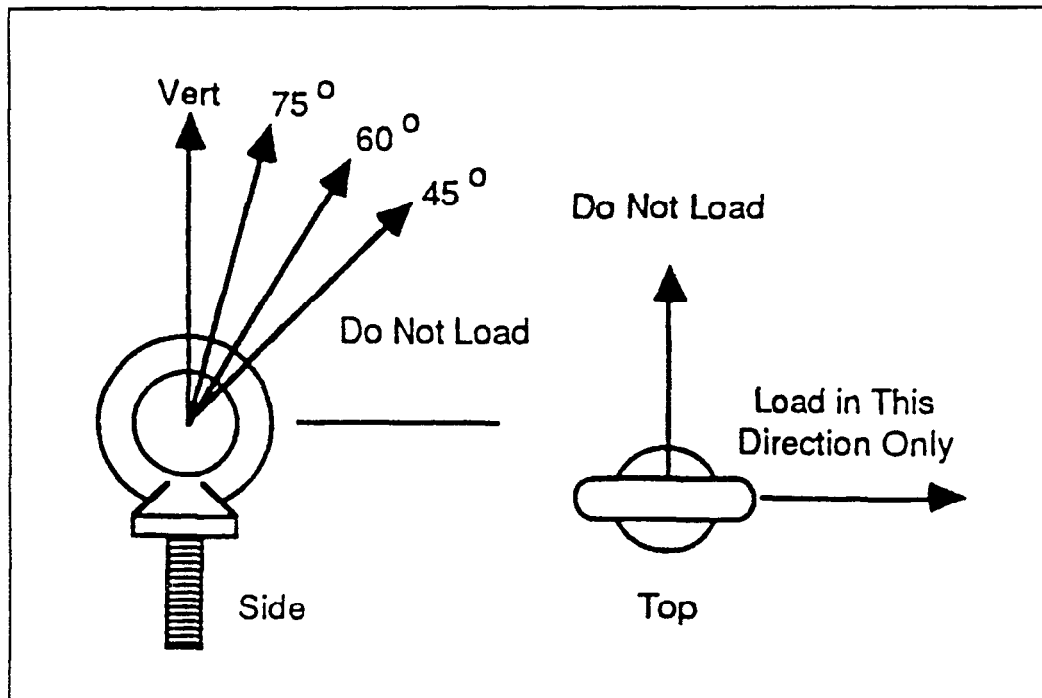

Fig.2
- 6) Eye Bolts — A variety of holes are provided for ¼-inch forged steel eye bolts. If eye bolts are used for suspension, load them only in directions shown in Figure 2. The 3¾-inch slot on the attachment flange allows adjustment for time-alignment purposes.